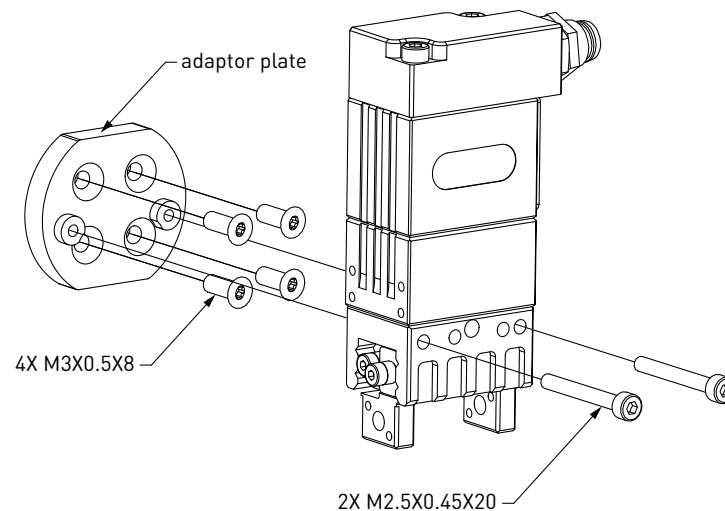

Figure 4: Mounting the MEGP 25E gripper to the flange of the Meca500
The MEGP 25E electric gripper is designed and supplied with an assembly kit for only one type of installation (Figs. 4 and 5). If you want to mount the gripper on the flange of the Meca500 in a different way, you need to design and machine your own adaptor plate. Note, however, that if you use a different adaptor plate or if you do not install your gripper in exactly the same manner as shown in Figs. 4 and 5, it is quite possible that the gripper cable will be too short. Therefore, an installation other than the one shown here may limit the range of motion of joint 6 and may result in damage to the gripper and/or the robot.
To install the gripper, switch off the robot, refer to Figs. 4 and 5, and follow these steps:
4. Attach the gripper exactly as shown in Figs. 4 and 5c using the two M2.5X0.45X20 socket head screws provided.